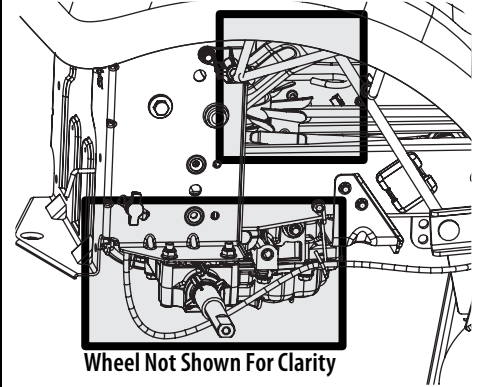

Figure 4-9
- Clean around and near the transmission, axle and the fan area. See Figure 4-9.